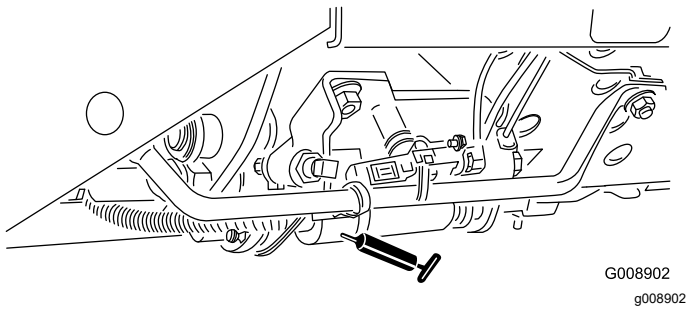

Figure 59
- Mow/transport slide (Figure 59)